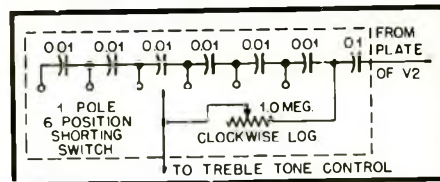

Fig. 3. A suggested bass-boost circuit. This section corresponds to box "A" in Fig. 2.
*Figure 3* is the bass control, which gives a maximum of 12 db bass boost, the magnitude of the rise being controlled by the potentiometer. The point at which the rise begins is selected by the switch. These turnover frequencies are 80, 140, 200, 300, 400, and 500 cps. The bass boost is sufficient to compensate for the recording characteristic of LP records, and in practise it will be found that usually the maximum amount of boost is unnecessary.